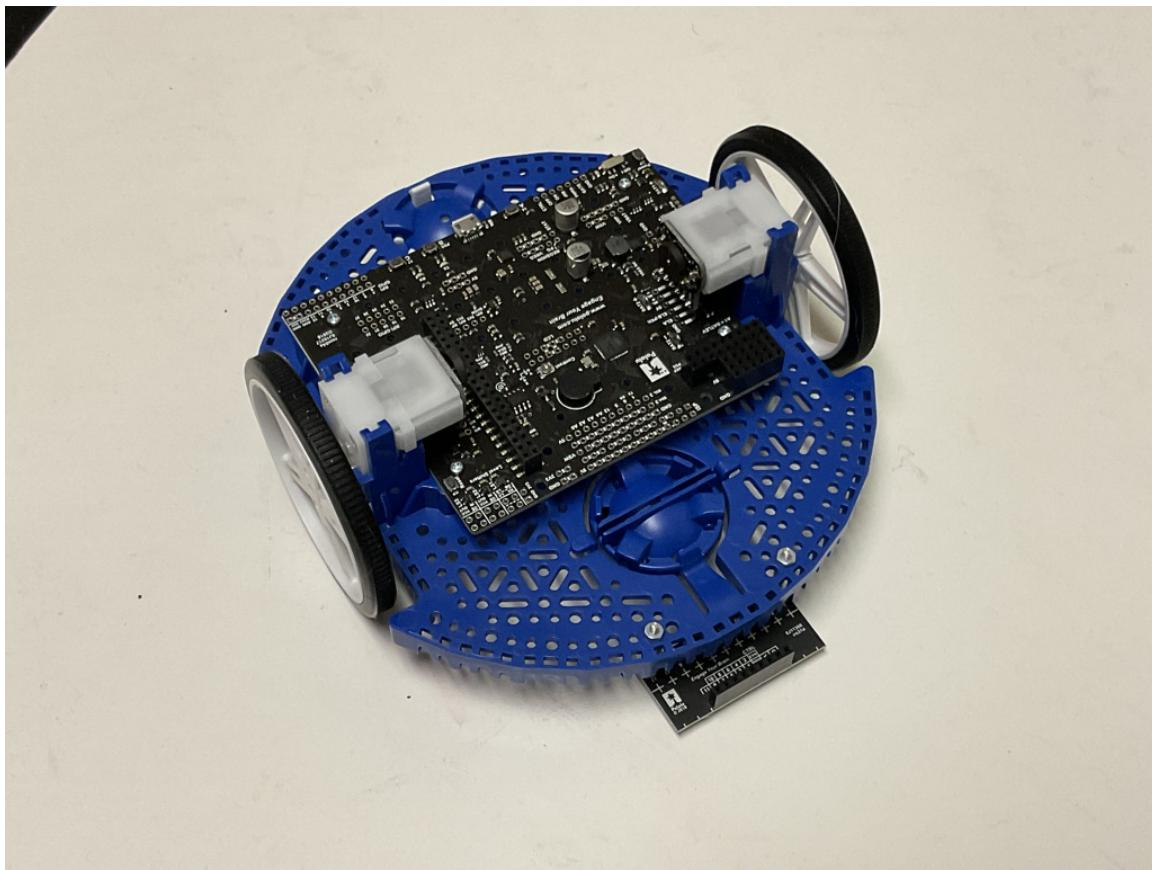

Figure 1: Romi base with line sensor attached.
3. **Add the line sensor.** Using (2) 3/4” standoffs, attach the line sensor to the front of the robot, as shown in Figure 1. Arrange it so that screws are on the bottom and nuts on the top so that the extra screw length doesn’t drag on the ground.